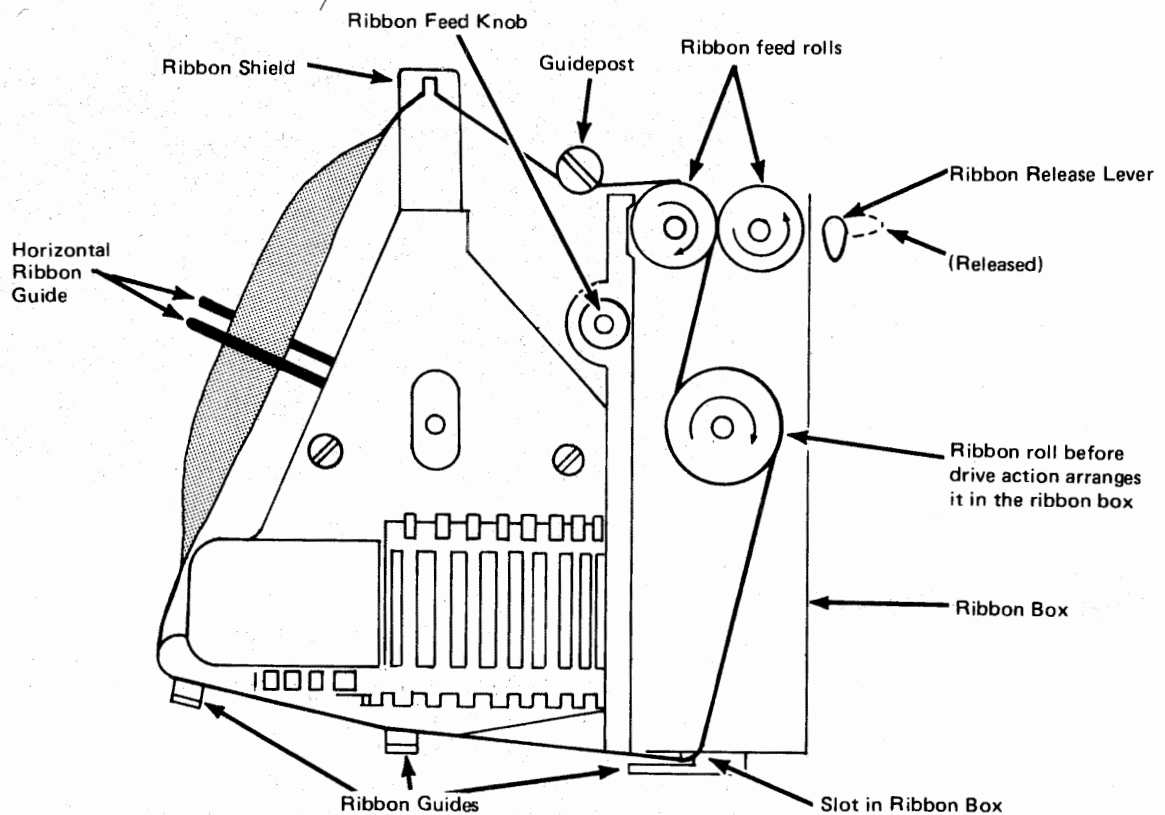

Figure 4-10. Ribbon Path
- 5 Open the ribbon feed rolls by rotating the ribbon release lever (Figure 4-10) so that it points to the right.
- 11 Thread the side of the loop nearest the platen between the feed rolls, and around the guidepost, as shown in Figure 4-10.